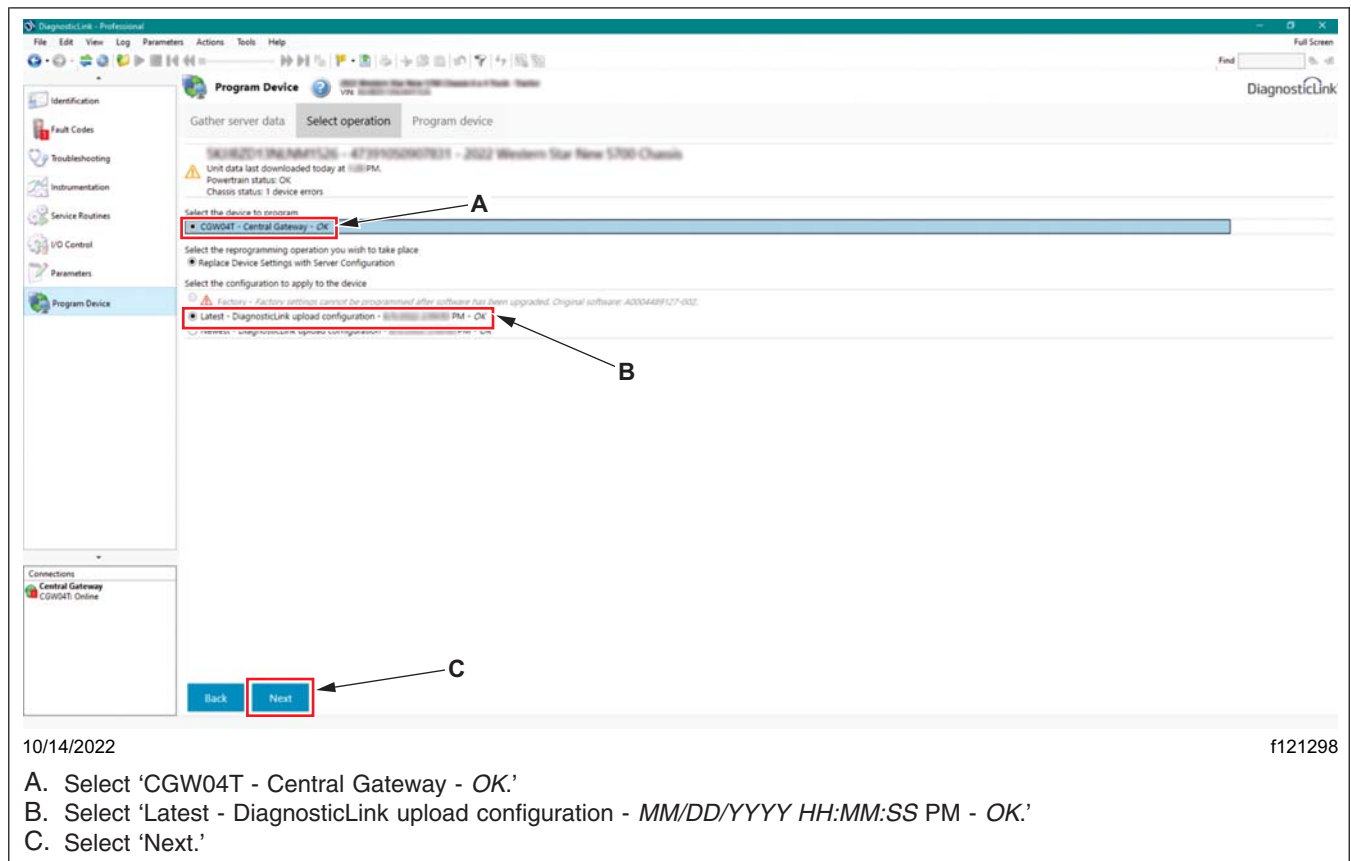

Fig. 15, Selecting the Device Configuration
11.1 Select 'CGW04T - Central Gateway - OK' as the device to program. See Fig. 15.
11.2 Select 'Latest - DiagnosticLink upload configuration - MM/DD/YYYY HH:MM:SS PM - OK' as the configuration to apply to the device. See Fig. 15.
11.3 Select 'Next.' See Fig. 15.